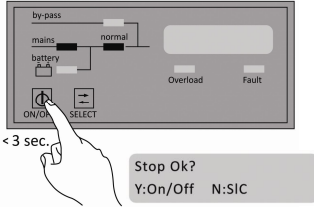
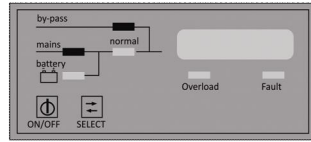

Figure 3.9
Figure 3.10
1. **If the UPS is in Normal Mode:** Switch off your loads safely. Press the *ON/OFF* button briefly. Press the *ON/OFF* button briefly again to confirm bypass operation and observe the *by-pass* and the *mains* LEDs turn on (Figure 3.9, Figure 3.10).